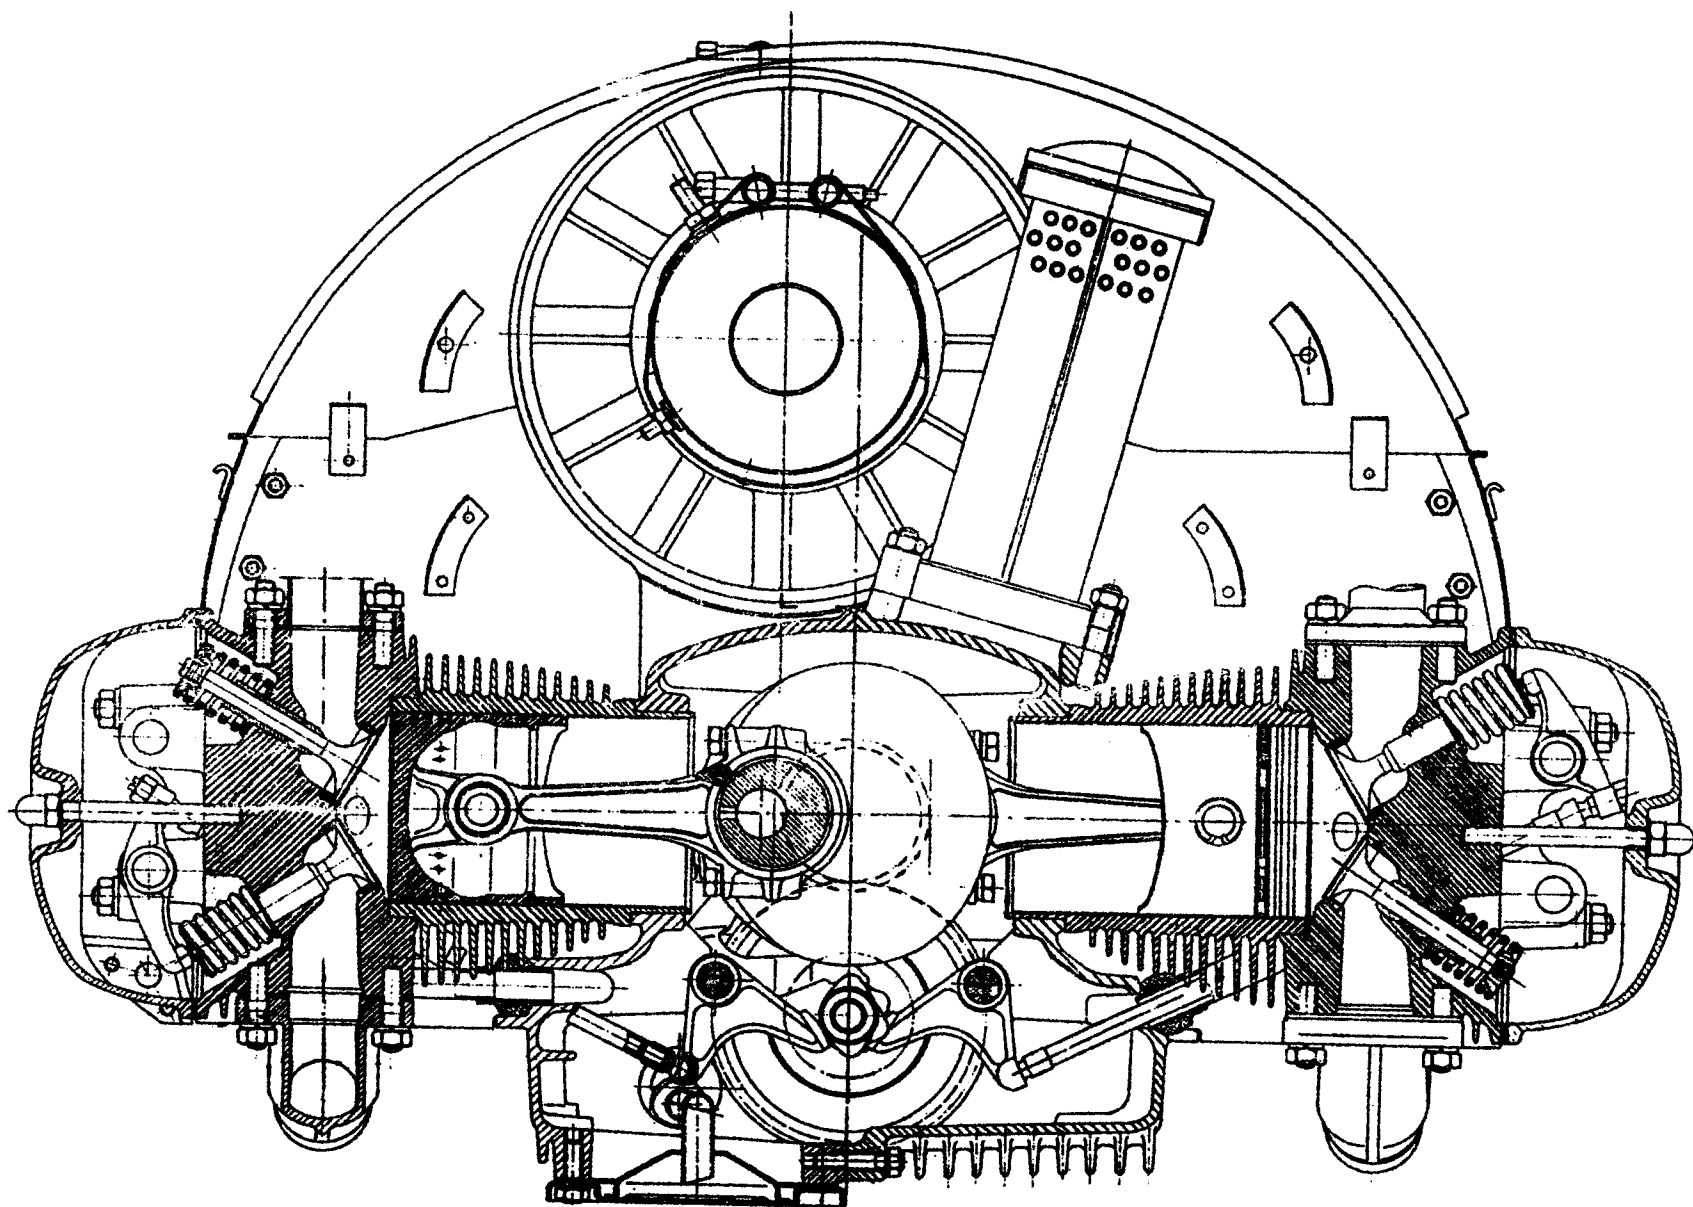

Fig. 2/I: Motor engine moteur
- a) For burned valve stem. If necessary, regrind according to the description given under fig. 2 / II and fig. 2 / III the first number being the group number, the second the number of the illustration.
The measures for fig. 2 / II being: